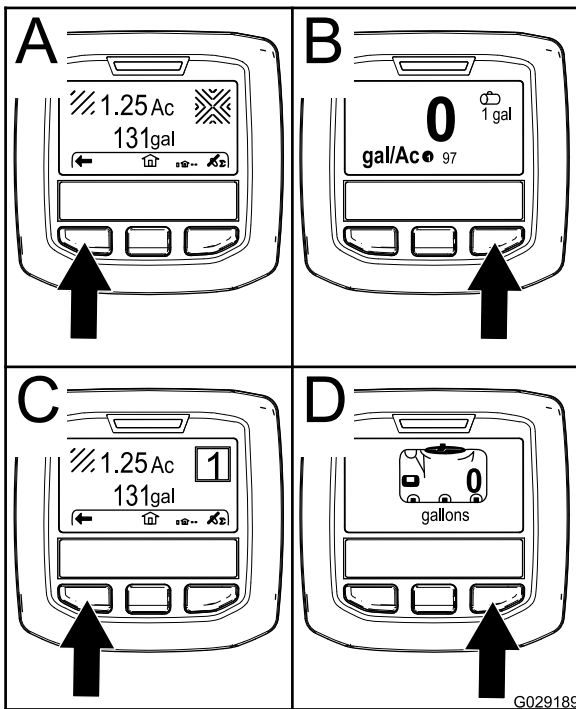

Figure 61
- Right selection button: **Total area sprayed** (A of Figure 61)
- Right selection button: **Application rate** (B of Figure 61)
- Left selection button: **Sub-area sprayed** (C of Figure 61)
- Left selection button: **Tank volume** (D of Figure 61)